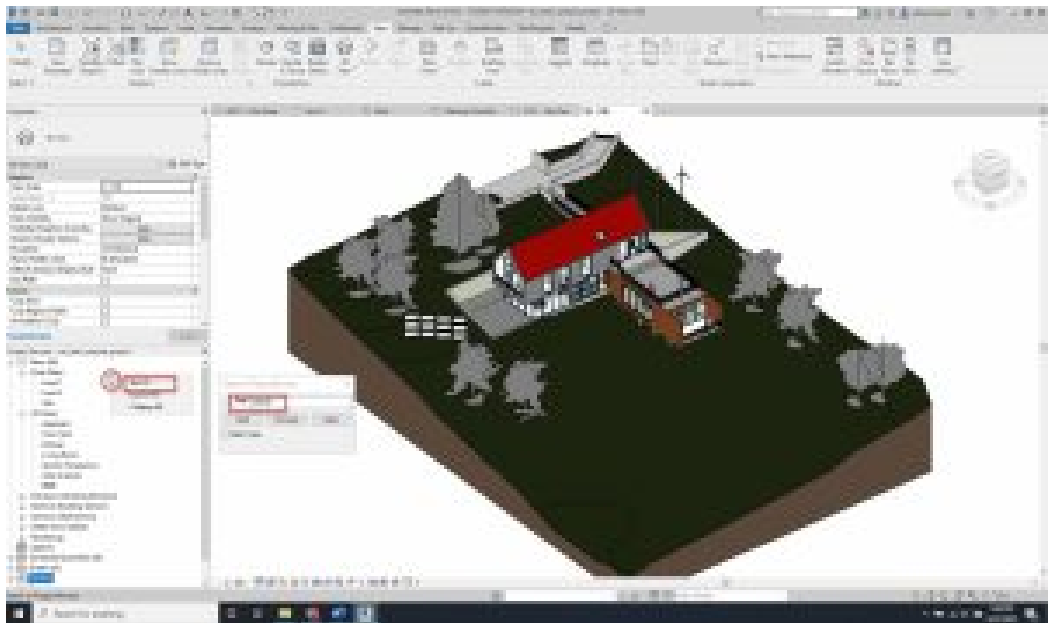

Figure 1.9 Project Browser Search
4. Toggle through the matches by clicking the Next and Previous buttons as shown in Figure 1.9